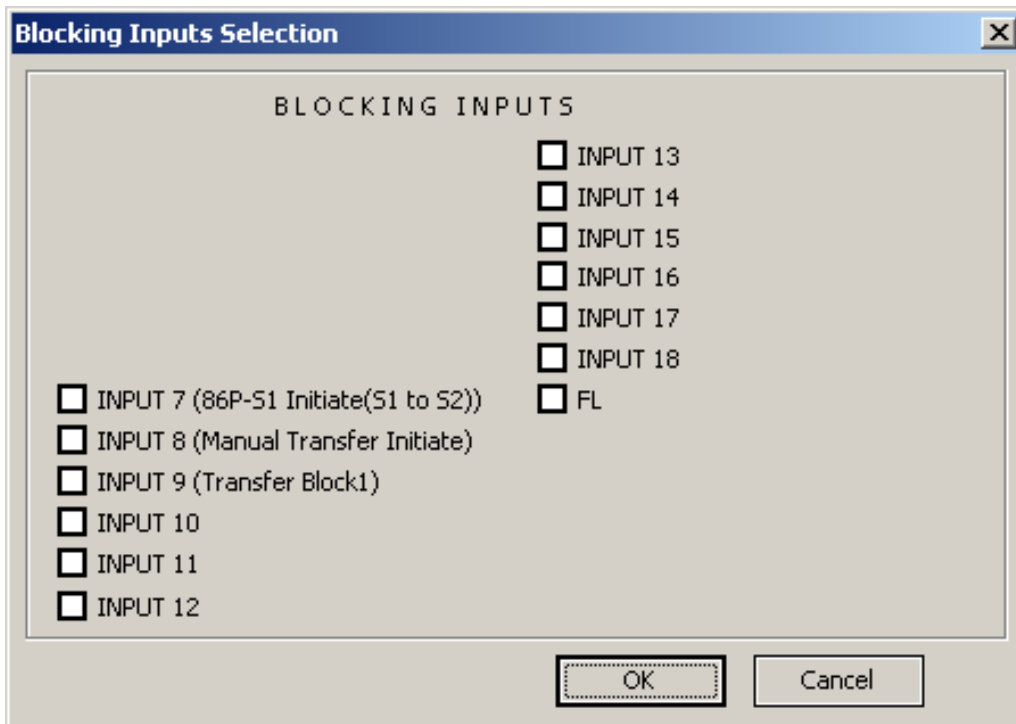

Figure 4-64 Hot Parallel Blocking Inputs Selection Dialog Screen
The Blocking Inputs Selection button opens the Blocking Inputs Selection dialog screen (Figure 4-64). Any Input or the Fuse Loss (FL) function can be selected to block a Hot Parallel Transfer.